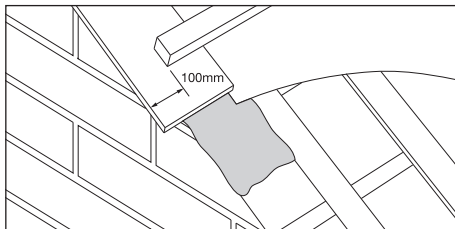

Fig. 14 – Fibre cement undercloak fitted over tiling batten
- 2 Place undercloak below battens, overhanging by maximum of 50mm (Fig. 14).